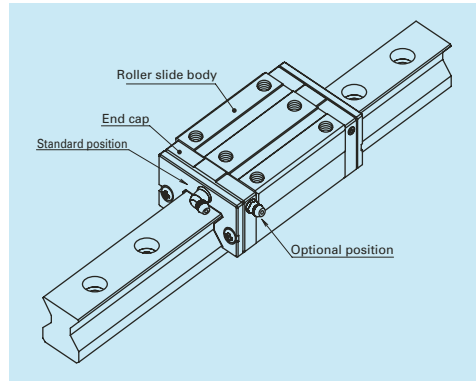

Fig. 12 Mounting position of lubrication accessories
- The standard position of grease fittings and tube fittings is the end face of roller slide. We can mount them on a side of end cap for an option. (Fig. 12) Please consult NSK for installation of grease or tube fittings to the roller slide body or the side of end cap.